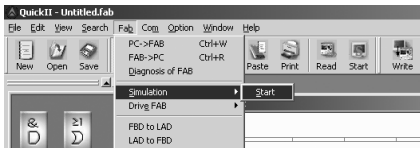
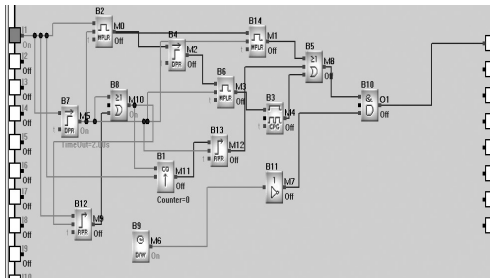

Fig 4.16
Fig 4.17
1. Click FAB2 Operation→Simulation→Start, as shown in Fig. 4.16, or directly click  icon in the Tool Bar. Now you can see the result of program running through I/O status in the frame as shown in Fig. 4.17.